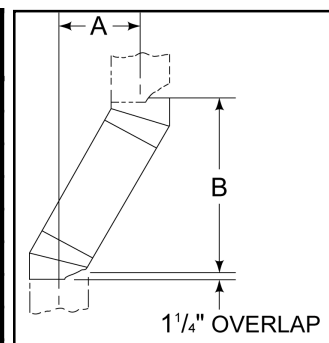

Figure 5 - Chimney Offset/Return
- Measure how far the chimney needs to be shifted to enable it to avoid the overhead obstacle. See Figure 5, dimension "A" to determine chimney sections required to achieve the needed shift.